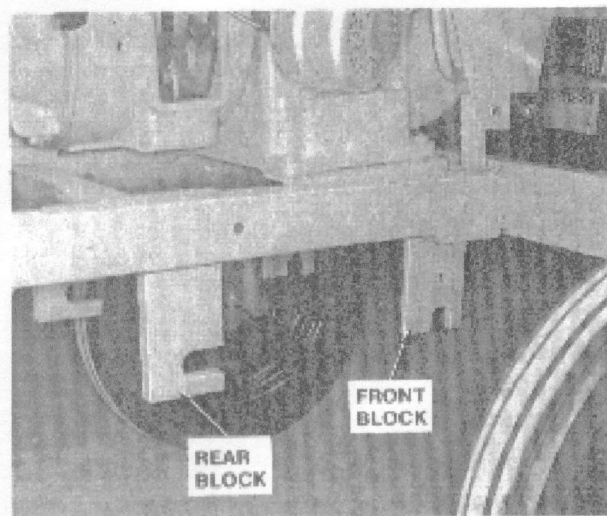

Figure 26. Front Hitch Blocks
The front hitch blocks (fig. 26) are permanently affixed to the forward bottom of the tractor frame. The rear blocks have 1 inch wide horizontal slots; the front blocks have 1 inch wide vertical slots.
2. Lift rear round cross shaft into slots in rear blocks (fig. 26).